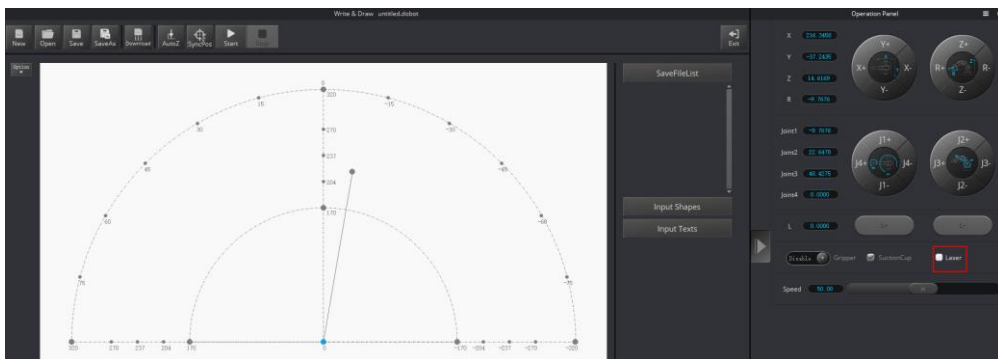

Figure 5.68 Unselect the Lasers
Step 3 Press and hold the unlock button  on the Forearm to move the robotic arm to raise and lower the height of the laser kit until the laser is the brightest with a smallest possible spot size. When the laser power level is high enough, the laser beam can burn and cut the paper. After getting a pretty good focus, unselect **Laser** on the **Operation Panel** page to turn off the laser, as shown in Figure 5.68.